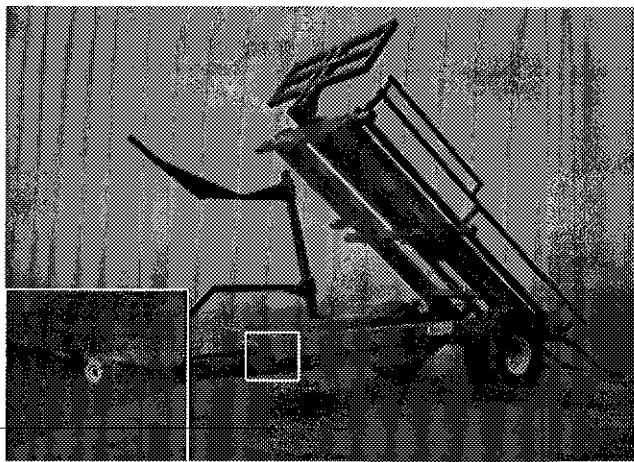

Figure 22
- 11) To unload in rows on the ground, the rear bale support must be used, which permits maximum capacity load of 8 bales. A maximum angle indicator is installed on the machine. When the yellow pin appears, the ideal unload angle is reached (Fig.22).